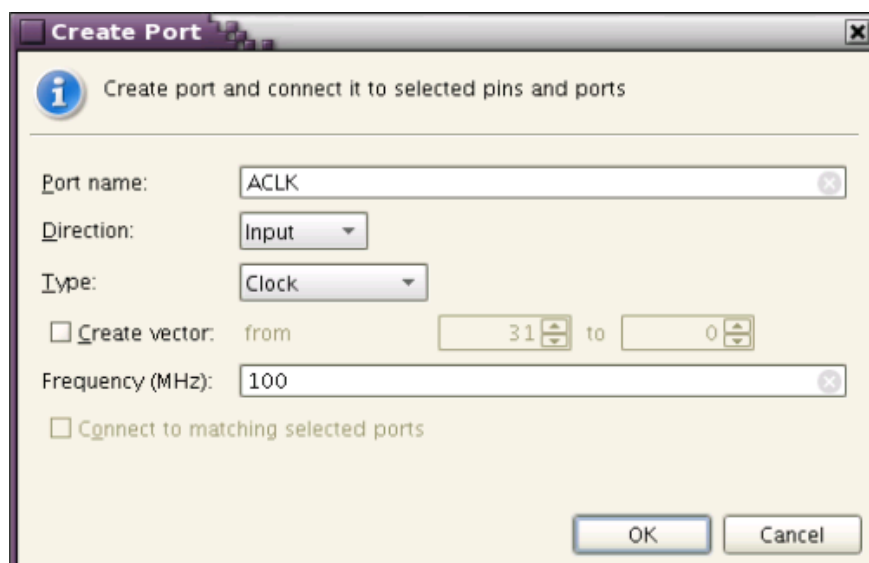

Figure 34: Create Port Window: Adding ACLK Port
7. In the Create Port window, enter the following and click **OK** (Figure 34).